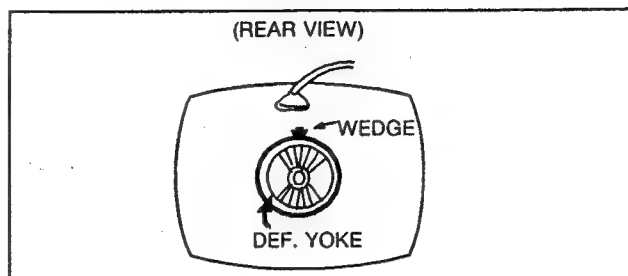

Fig.B-7
2. Adjust the convergence around the edges of the picture tube by tilting the yoke, up-down and left-right, and temporarily install one wedge at the top of the yoke. (Fig. B-7, 8, 9)